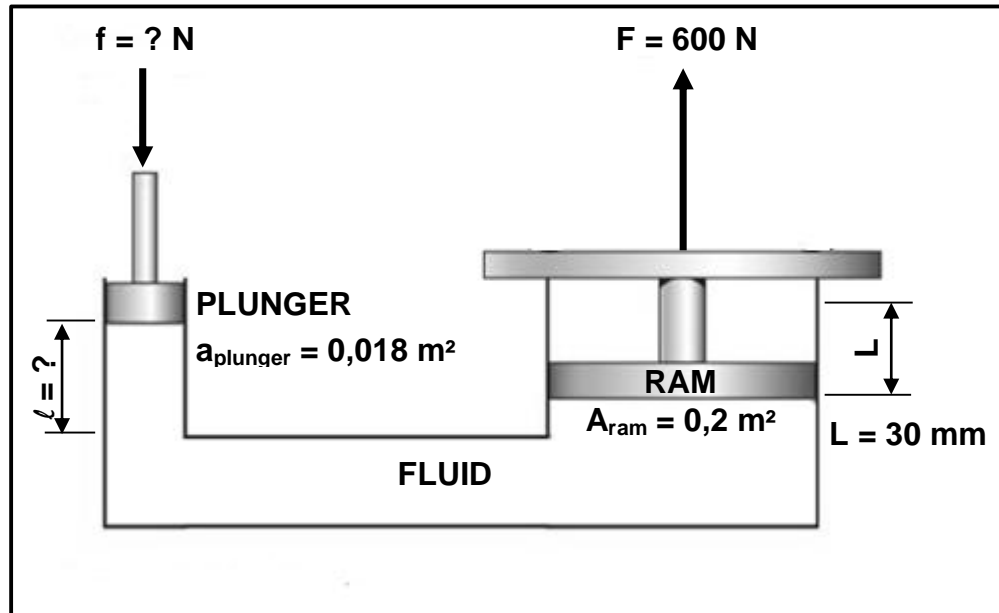

FIGURE 11.1
11.1 FIGURE 11.1 below shows a hydraulic press.